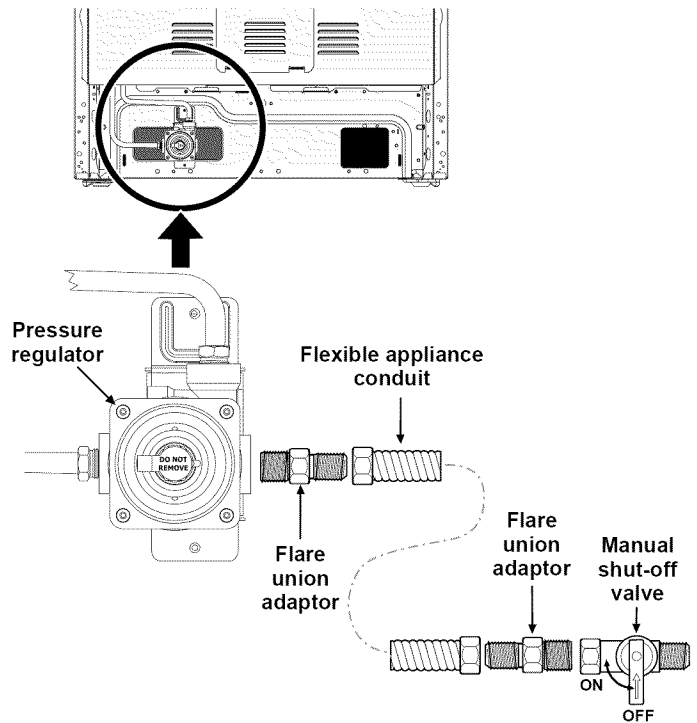

Fig. 8 - gas supply connections
- Install an external manual gas shut-off valve to gas supply line in an accessible location outside of range. Be sure you know where and how to shut off the gas supply to the range (See Fig. 8).
- Install 1/2" flare union adaptor to gas pressure regulator using **no more than 15ft./lbs.** of torque (Refer to Fig. 8).
- d. Install flare union adaptor to external manual shut-off valve (See Fig. 8).
- e. Attach flexible appliance conduit to flare union adaptor on shut-off valve (See Fig. 8).